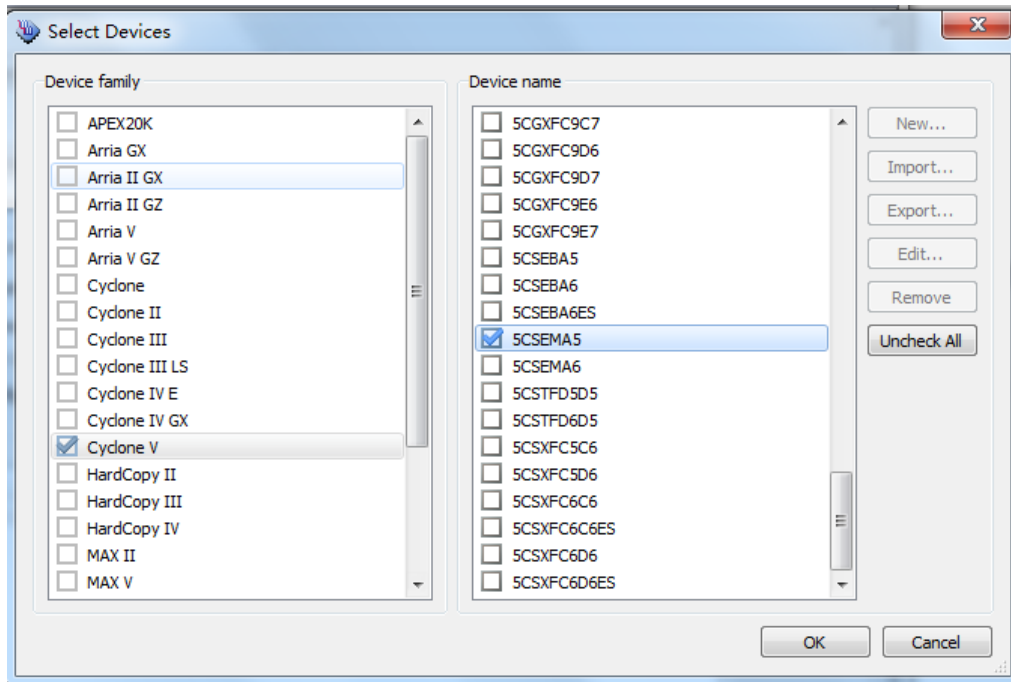

Figure 8-4 “Select Devices” page
12. Select the targeted FPGA to be programmed into the EPCQ, as shown in **Figure 8-4**.